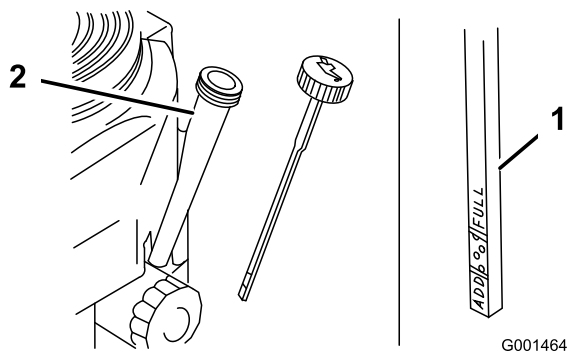

Figure 30
4. Clean around the oil dipstick (Figure 30) so that dirt cannot fall into the filler hole and damage the engine.
5. Unscrew the oil dipstick and wipe the end clean (Figure 30).
6. Slide the oil dipstick fully into the filler tube, but do not thread onto tube (Figure 30).
9. Slowly pour approximately 80% of the specified oil into the filler tube (Figure 30).